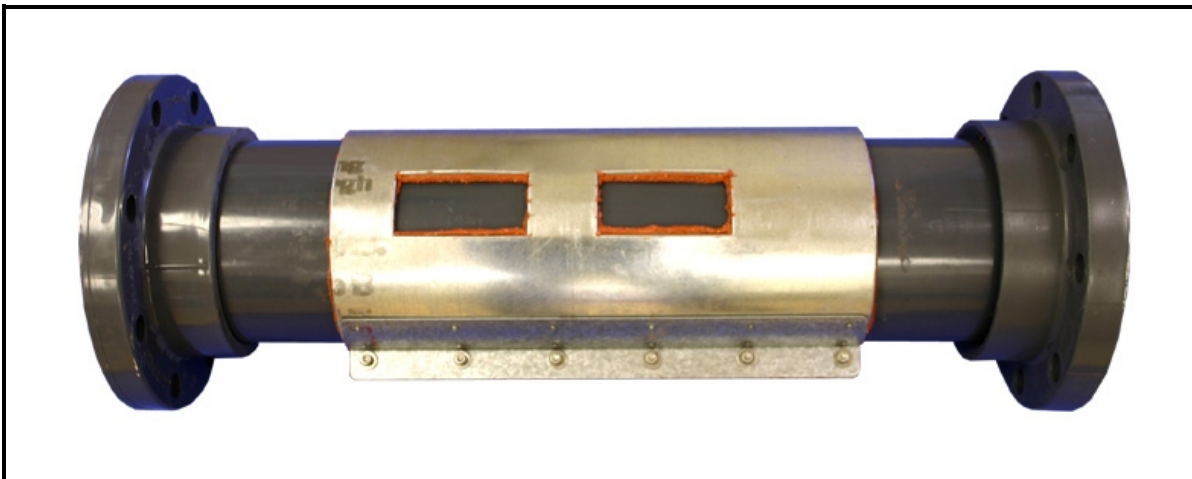

Figure 13: Pipe Damping Jacket Installed
3. Install the jacket on the pipe as shown in Figure 13 below. Align the cutouts with the previously marked transducer locations. Then tighten the clamping screws until some fluid drips from the bottom of the jacket.